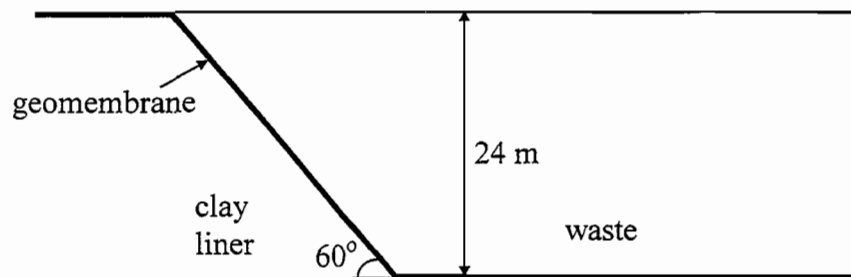

Fig. 1
4. (a) The side slope of a landfill with a clay liner and a geomembrane was constructed to retain waste to a depth of 24 m as shown in Fig. 1. The side slope makes an angle of 60° with the horizontal as shown in Fig. 1. The geomembrane made from HDPE has a thickness of 4 mm and has a mass of 20 kg m^{-2} . The underside of the geomembrane has a friction angle of 8° with respect to the clay liner while the upper side has a friction angle of 5° with respect to the waste. The unit weight of the waste was estimated to be 8 kN m^{-3} . The yield stress of HDPE was determined to be 13 MN m^{-2} .